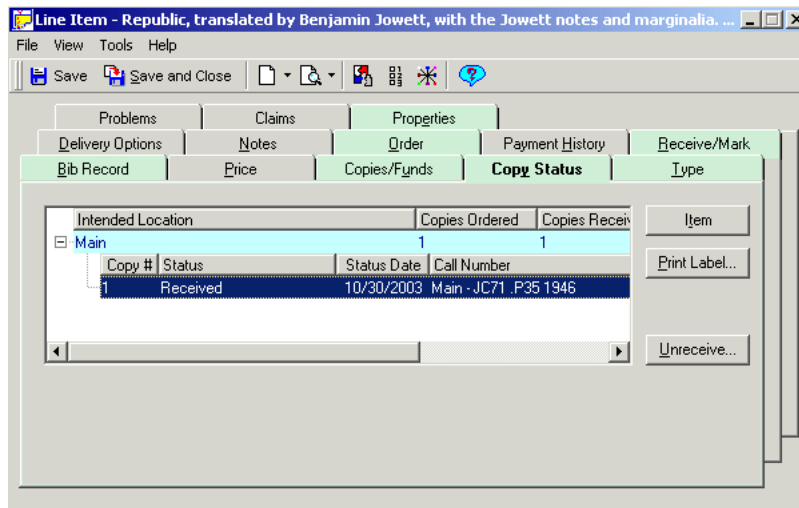

Figure 10-5. Line Item dialog box - Copy Status tab
3. Click the copy (second level of the hierarchy) that is associated with the item record that you want to create/maintain (Figure 10-5) and then click the **Item** button.